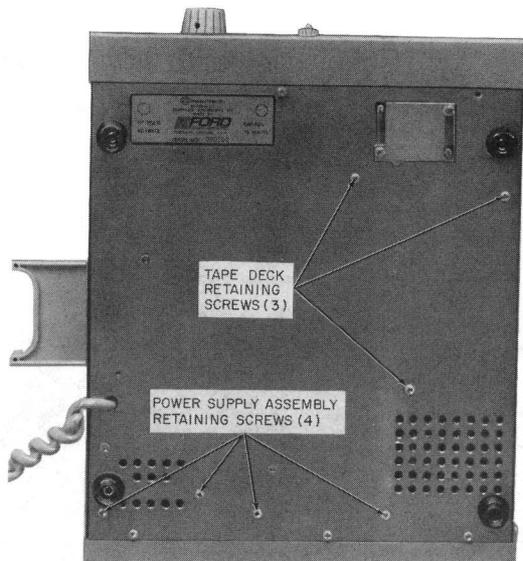
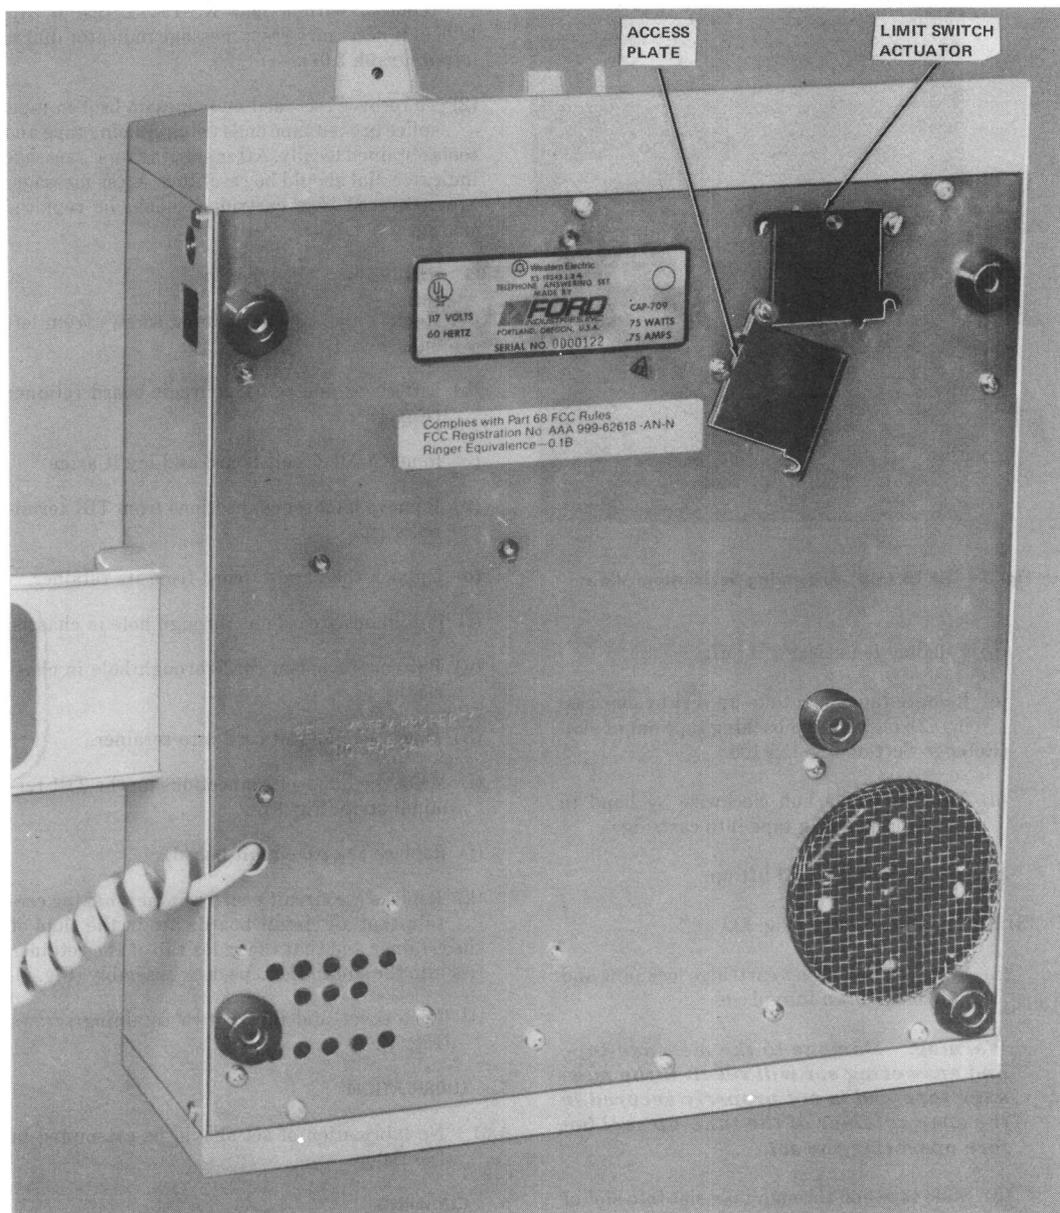
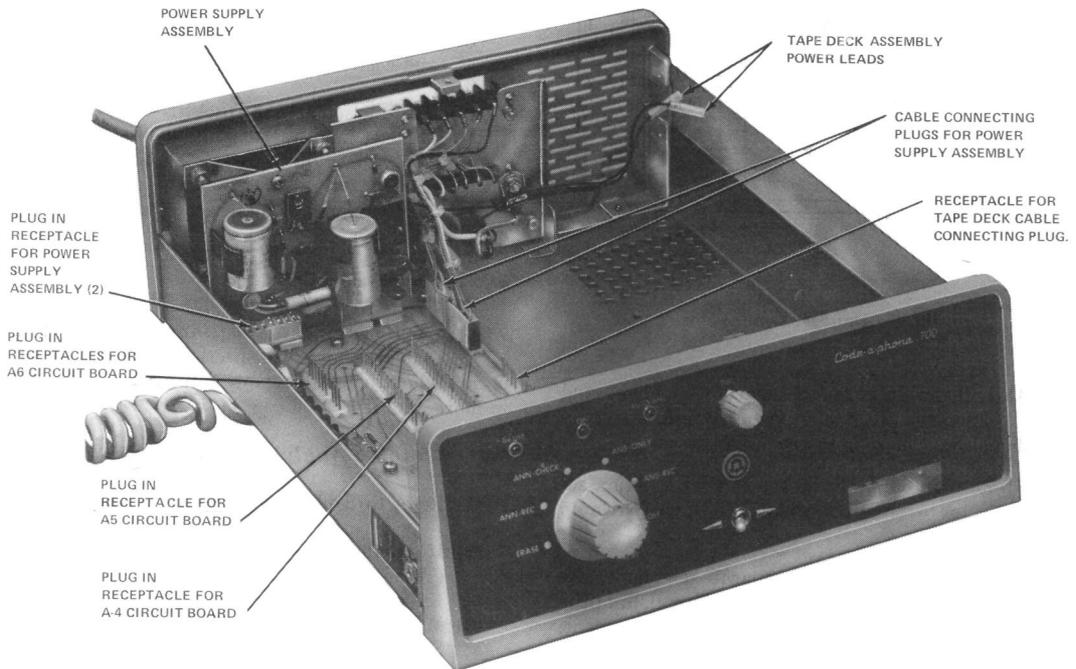

Fig. 5—List 13 (MD) Answering Set, Bottom View
Fig. 6—List 24 (MD) or 26 Answering Set, Bottom View
Fig. 7—Top Cover, Circuit Boards and Tape Deck Removed
- (c) Remove cable connecting plug for tape deck (Fig. 7).
- (d) Lay the set on its right side and remove the three retaining screws for the tape deck [List 13 (MD), Fig. 5; List 24 (MD) or 26, Fig. 6].
- (h) Disconnect the two tape deck assembly power leads (Fig. 7).
- (3) Remove power supply assembly.
- (a) Disconnect the two cable connectors for power supply assembly (Fig. 7).
- (b) Lay the set on its left side and remove the four retaining screws from the power supply assembly (Fig. 5).
- (4) Insert new power supply assembly.
- (a) Align power supply assembly with receptacles and push down until firmly seated (Fig. 7).
- (b) Lay the set on its left side and install the four retaining screws (Fig. 5).
- (d) Connect the two cable connecting plugs for power supply assembly (Fig. 7).
- (5) Reinstall tape deck.
- (a) With tape deck resting next to chassis, connect the two tape deck assembly power leads (Fig. 7).
- (d) Lay the set on its right side and install the three retaining screws (Fig. 5).
- (e) Connect the cable connecting plug for the tape deck to its receptacle (Fig. 7).